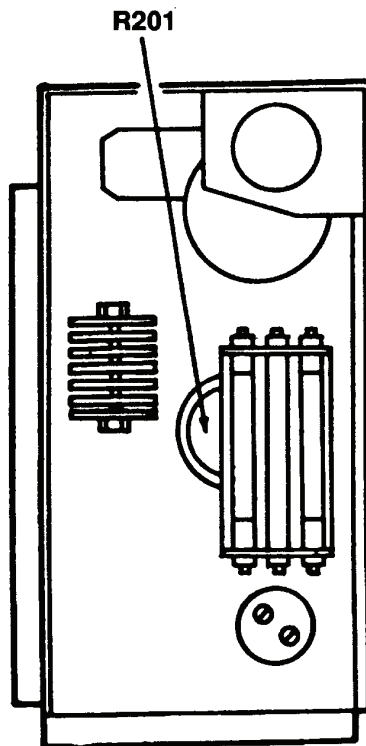
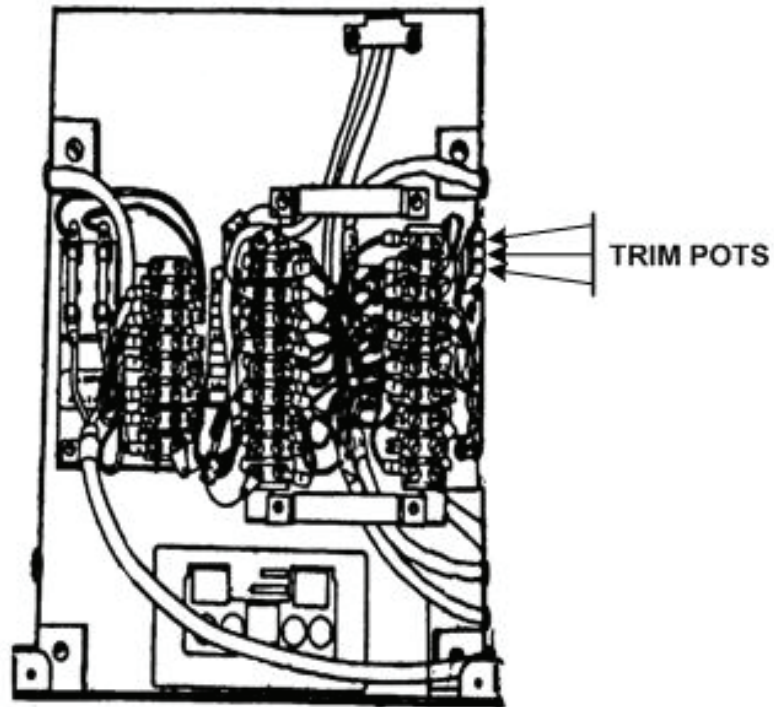

Figure 2. Weighing kit power supply - rear view.
Figure 3. Trim pot location.
- (1) Connect multimeter to gray (+) and violet (-) terminals of TI power supply switch.
- (2) Adjust R201 (fig. 2) for 24 V dc as indicated on multimeter.
- (3) Zero adjust TI cell under test in a no load condition.
- (4) Apply a known load to system, preferably 15,000 pounds.
- (5) Set TI **INITIAL LOAD** switch and adjust **WEIGHT** dial of indicator amplifier assembly to amount of load applied.
- (6) Adjust appropriate TRIM POT (span) (fig. 3) until indicator pointer of TI indicates a null. A trim pot is provided for each cell. (R)
- (3) Zero adjust TI in a no load condition.
- (4) Apply a known load to system, preferably 50,000 pounds.
- (5) Set TI **INITIAL LOAD** switch and **WEIGHT** dial of indicator to amount of load applied.
- (6) Adjust appropriate TRIM POT (span) (fig. 3) until indicator pointer of TI indicates a null. A trim pot is provided for each cell. These adjustments are located next to the terminal strip of the indicator amplifier assembly (R).